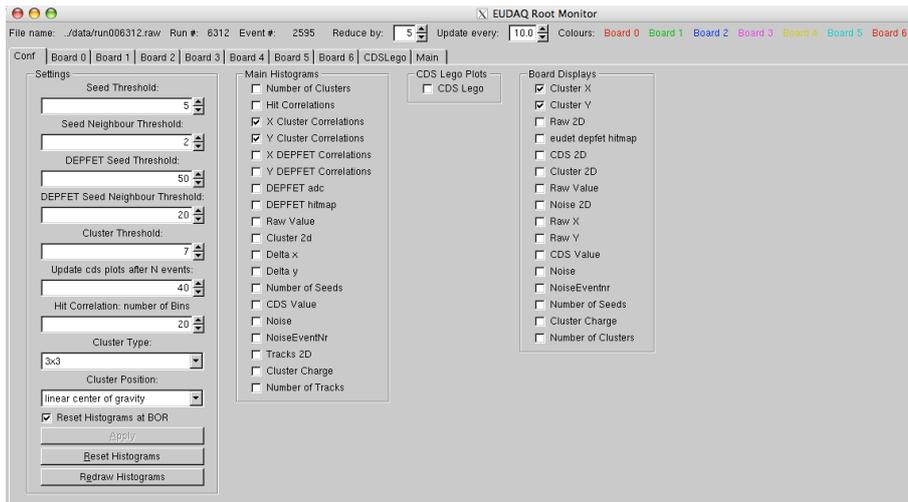

Figure 8: The Root Monitor. Please select the plots you want to have displayed and press "Apply". You might have to expand the window to see all options!
- Several windows are opening. The data taking is controlled in the window **eudaq Run Control** which is shown in figure 8.